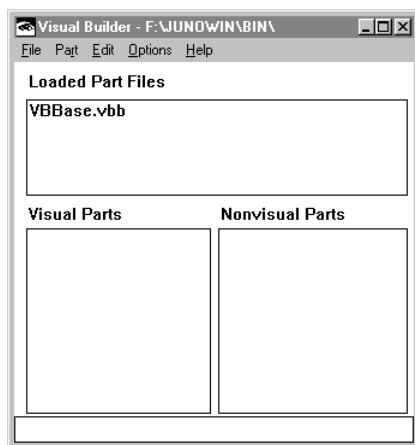

Figure 7. Visual Builder Window
4. Press the Enter key. Visual Builder displays the Visual Builder window, as shown in Figure 7.
3. Double-click on the **Visual Builder** icon. Visual Builder displays the Visual Builder window, as shown in Figure 7 on page 23.
2. Double-click on the **Visual Builder** icon. Visual Builder displays the Visual Builder window, as shown in Figure 7 on page 23.
Visual Builder displays the Visual Builder window, as shown in Figure 7 on page 23. If you double-clicked on a .vbb file to open Visual Builder, that file is loaded and opened.